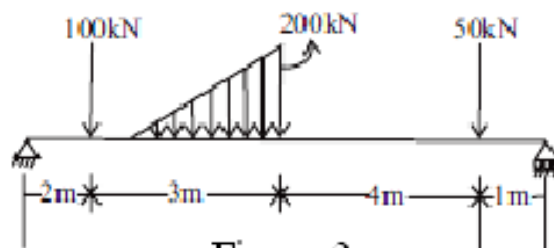

Figure 3
b) Draw the shear force and bending moment diagram for the beam as shown in Figure 3.